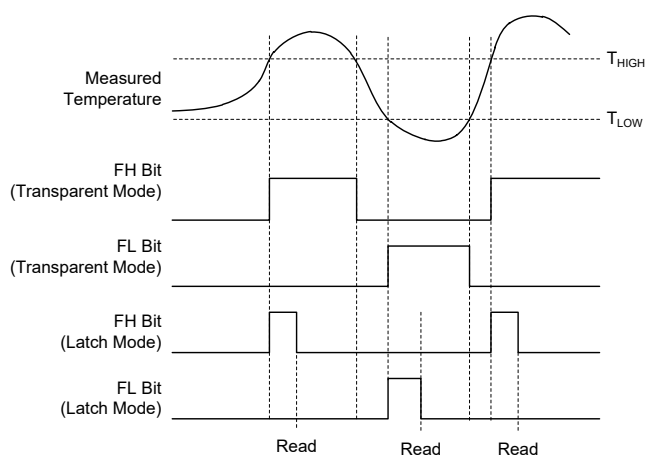

Figure 9. Temperature Flag Functional Diagram
There is a watchdog function inside the SGM458 to check if the measured temperature is higher than the upper threshold or lower threshold of the device through T_{HIGH} and T_{LOW} registers. The flag-high bit (FH) is set to high if the measured temperature is higher than T_{HIGH}, and the flag-low bit (FL) is set to high if the measured temperature is lower than T_{LOW}. For the normal measurement case, if both FH and FL bit are set to low state, it means that the measured temperature is lower than T_{HIGH} and higher than T_{LOW}. The above three different cases are shown in Figure 9.